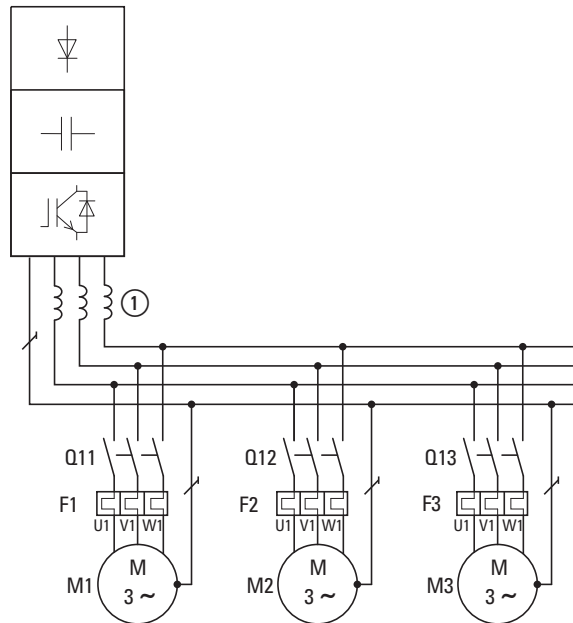

Figure 12: Parallel connection of several motors to one variable frequency drive
To reduce the current distortion, you should use motor reactors (see ① in Figure 12) in the output of the variable frequency drive.